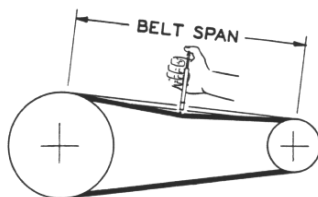

FIG. 3
1. Loosen nuts(A) and tighten bolt(B) until the belt tension needed is acquired as in Fig. 3.
2. Tighten nuts(A) back down snug with the motor mounting plate.